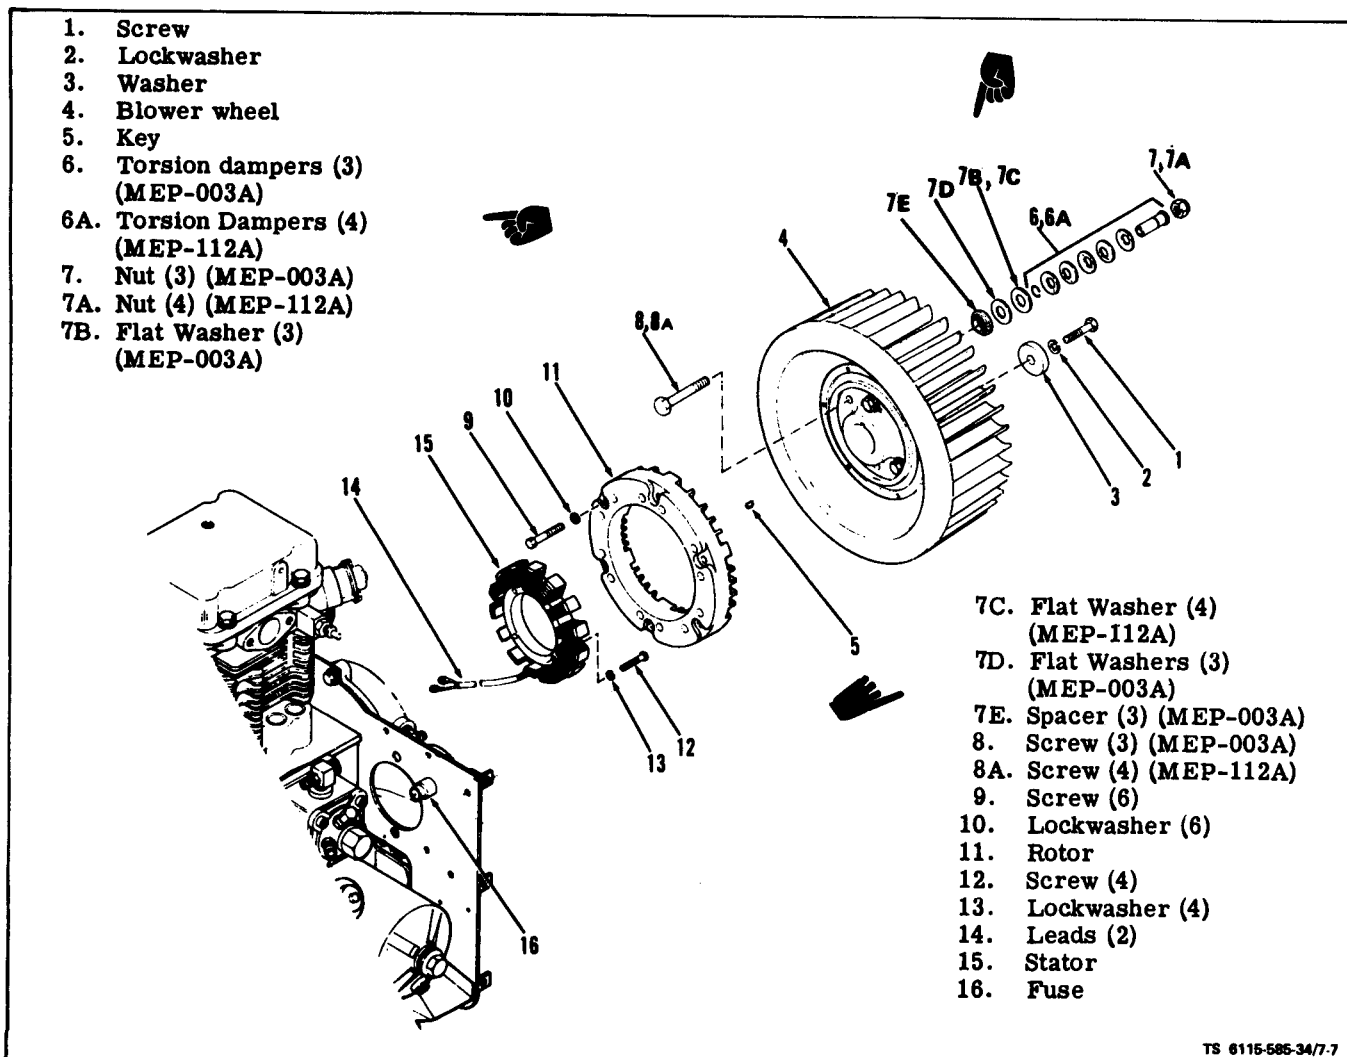

Figure 7-7. Battery Charge Alternator and Blower Wheel
- a. Inspect (see figure 7-7).
(1) Refer to Operator and Organizational Maintenance Manual and remove blower housing.
(2) Check blower wheel (4) for cracks or broken fins. Check for free play between blower wheel and hub. Replace torsion damper assemblies (6) if free play is present.
b. Removal. Remove screw (1), lockwasher (2) and washer (3), attaching blower wheel to crankshaft. Use two 5/16-24 screws in blower hub and a suitable puller to remove blower wheel (4) and key (5).
a. Inspect (see figure 7-7).
(2) Check stator wiring and voltage regulator wiring for loose connections or shorts. Check fuse F 1 (16).
(1) Rotor. Refer to Operator and Organizational Maintenance Manual and remove the blower housing. Remove blower wheel assembly (4, figure 7-7) per paragraph 7-7. Remove rotor mounting screws (9) and lockwashers (10) attaching rotor (11) to blower wheel (4) and remove rotor (11).
(2) Stator. Disconnect stator leads (14, figure 7-7) from terminal block on engine back plate. Remove wire clamp from oil filter casting. Remove screws (12) and lockwashers (13) attaching stator (15) to engine and remove stator (15).